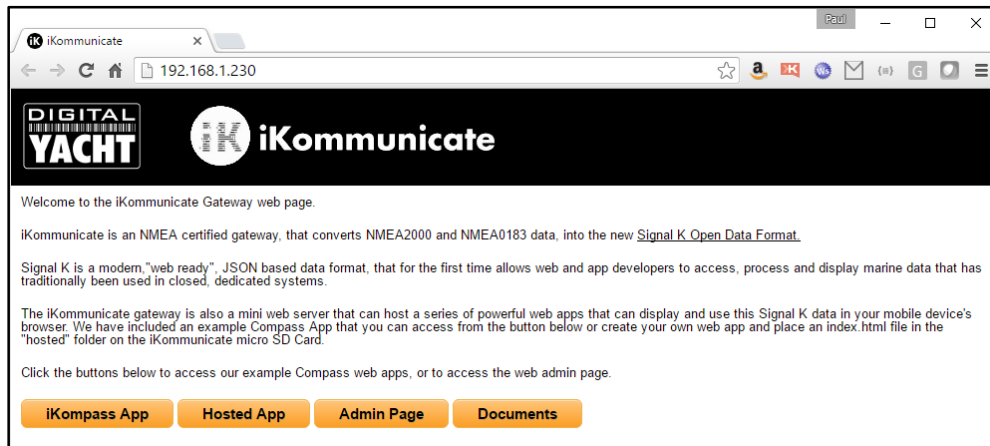

Figure 1
- Double clicking “iKommunicate” will open your browser and display the iKommunicate Web interface (see Fig1).
- Once you have discovered the IP address of iKommunicate, type this in to the address bar of your browser and this will bring up the iKommunicate web interface as shown in Fig.1.